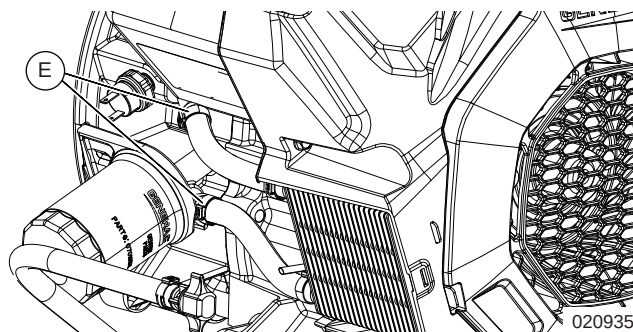

Figure 12-24. Install Stepless Ear Clamps
4. See Figure 12-24. Install rubber cooler hoses (D) onto engine barbed fittings (A).